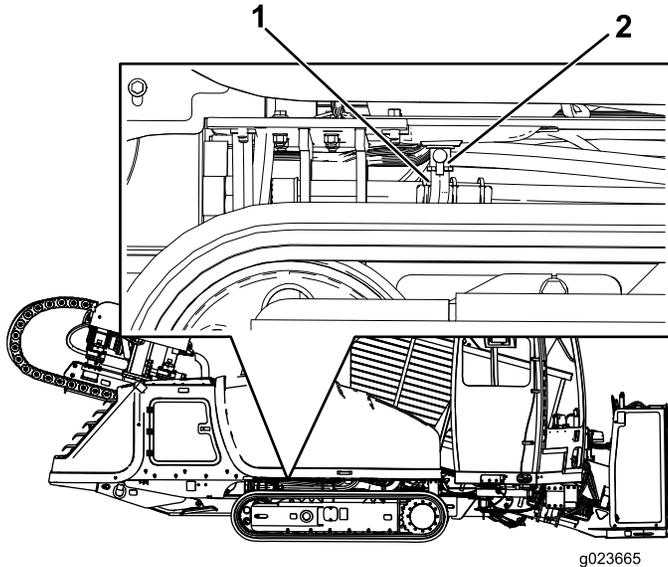

Figure 91
2. Ensure that the drain hose (Figure 91) is carefully pulled up and the end of the hose is placed in a drain pan.
3. Open the drain valve (Figure 91).
5. When the oil stops, close the drain valve (Figure 91).
6. Place the drain hose back into the original position (Figure 91).